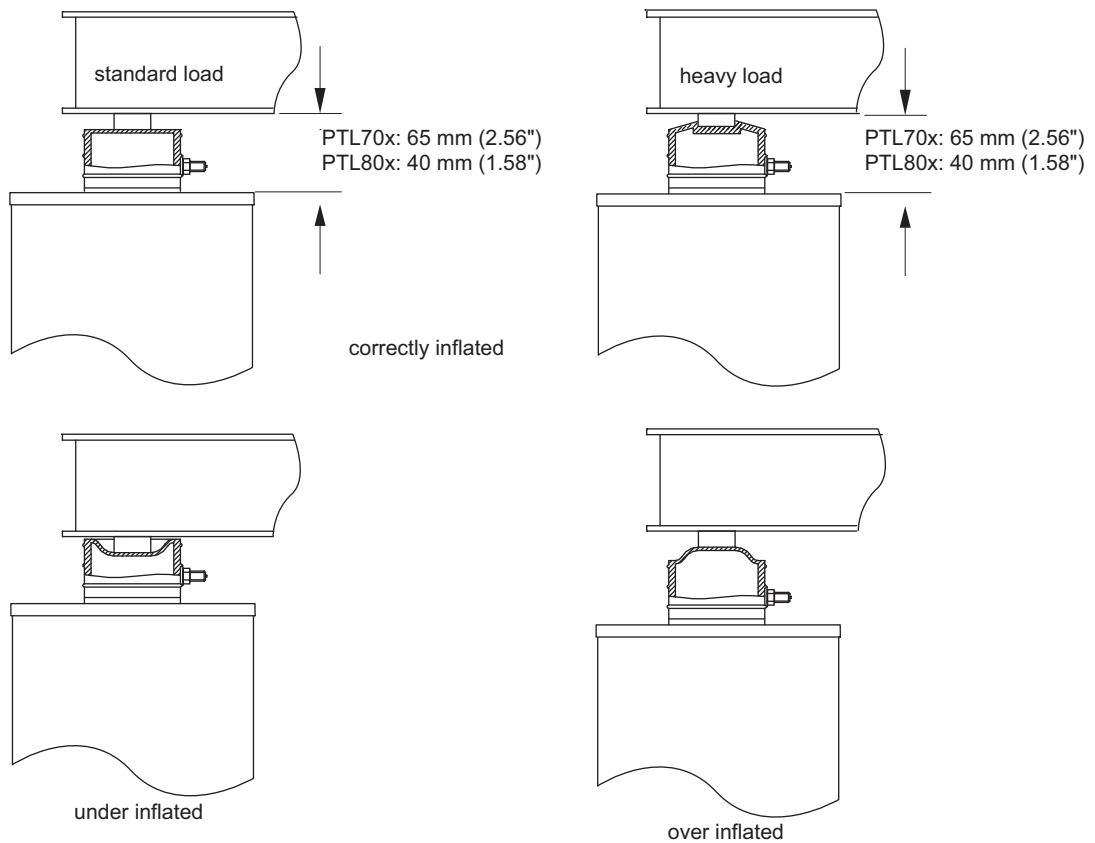

Fig. 2.5 Levelling the system
- 2) Repeat item 1) for the isolator diagonally opposite.
- 3) Repeat items (1) and (2) for the remaining two isolators.
- 4) Repeat items (1) to (3) until all four isolators have a gap between the outer cylinder and the underside of the table as shown below in Fig. 2.5.